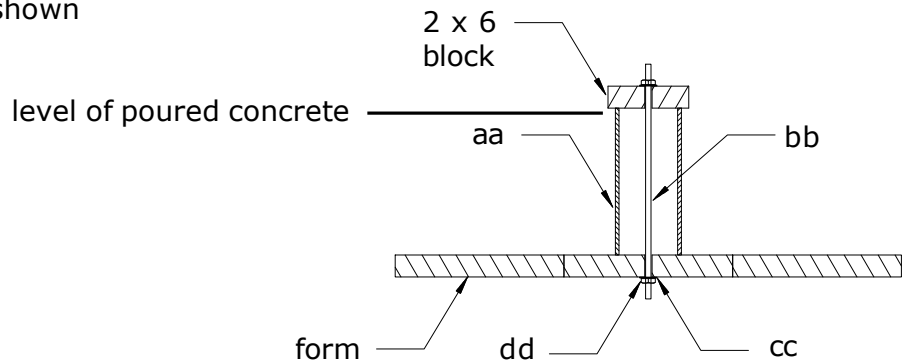

Figure 10
Ceiling installation instructions - figure 10
4. Sandwich plastic sleeve between top cap and form and install fasteners (cc) and (dd) as shown in figure 10.